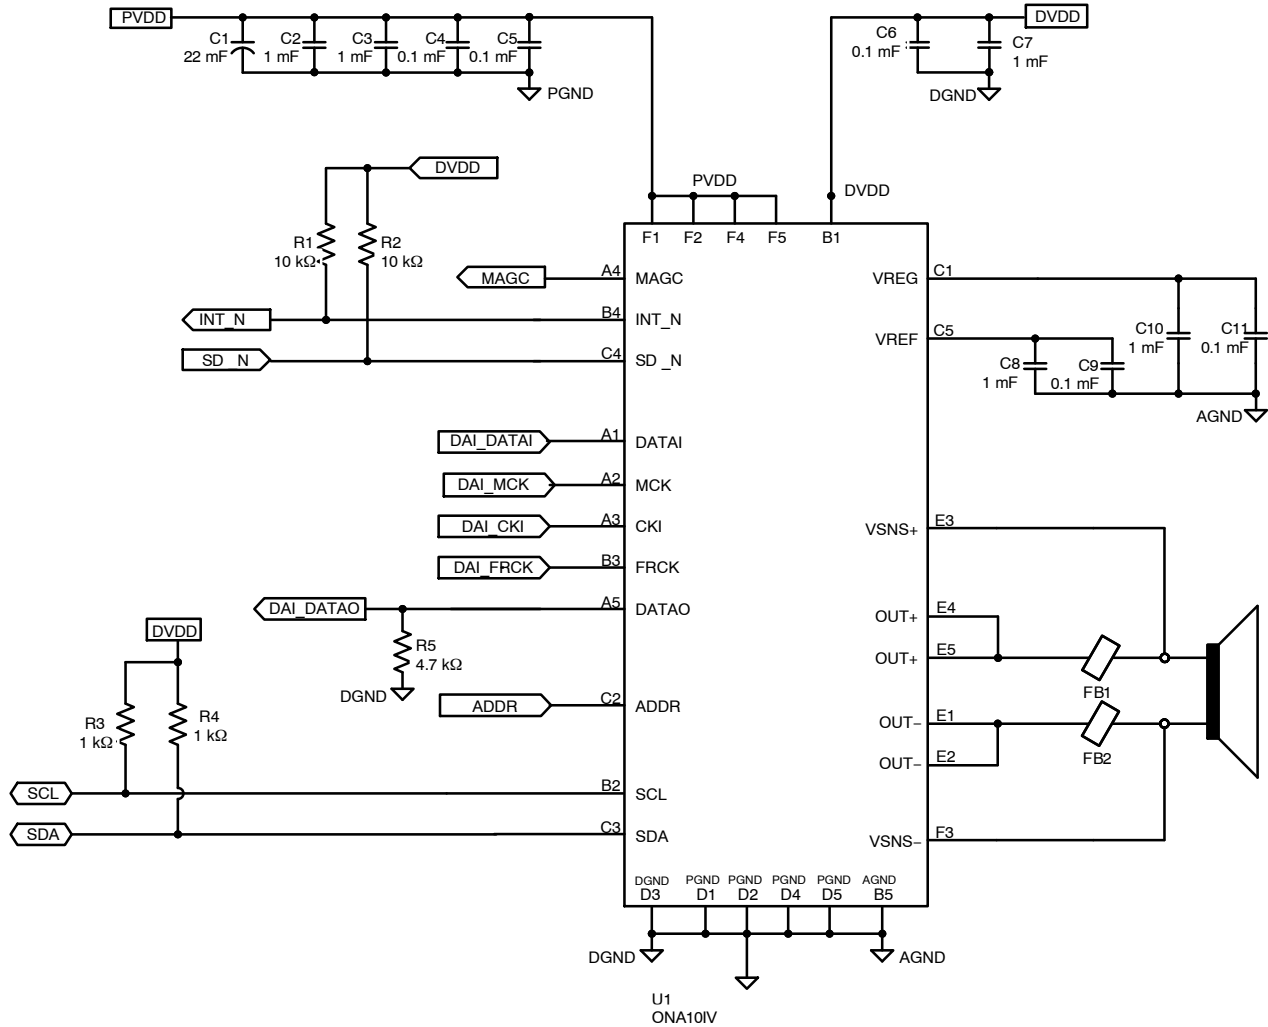
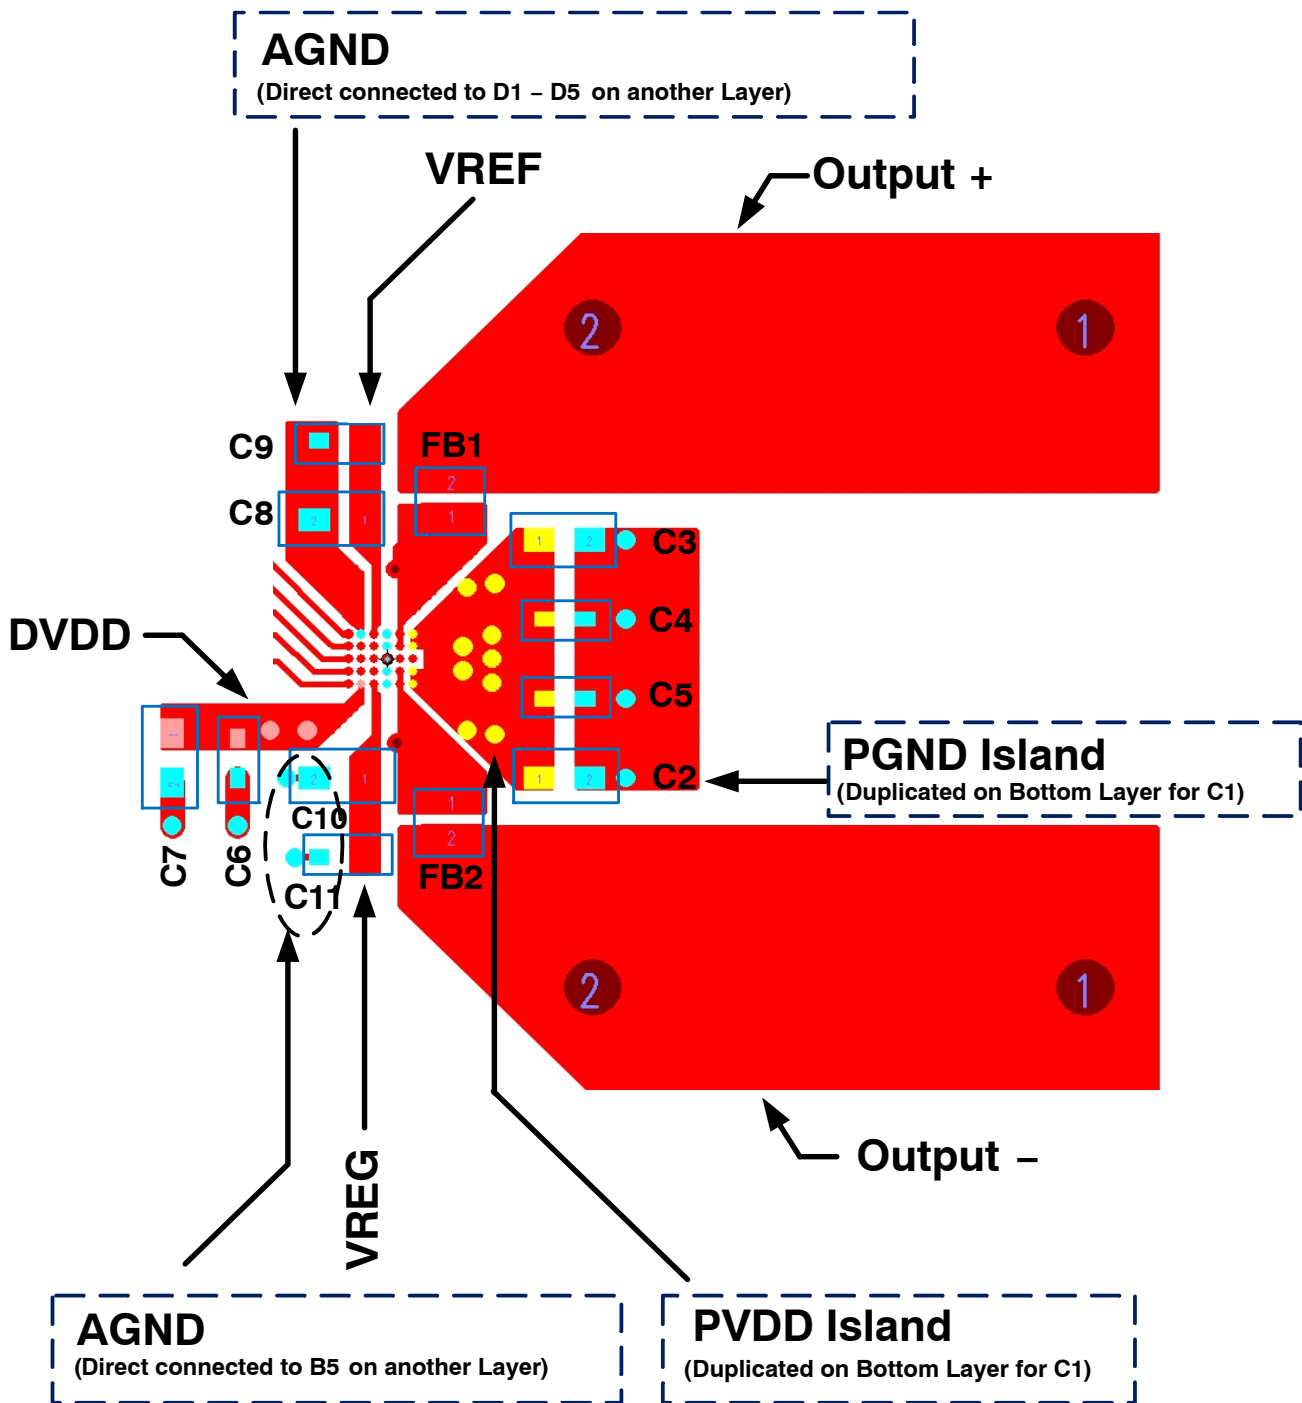

Figure 30. Key Signal Connection Schematic
Figure 31. Top Copper Placement of Key Components
- Figure 30 and Figure 31 illustrate a suitable ONA10IV layout scheme for a multi-layer PCB design.
- Refer to Figure 30 and Figure 31 for examples.
- Refer to Figure 30 & Figure 31 for examples of top-layer trace routing and layout for power, output and signal traces.